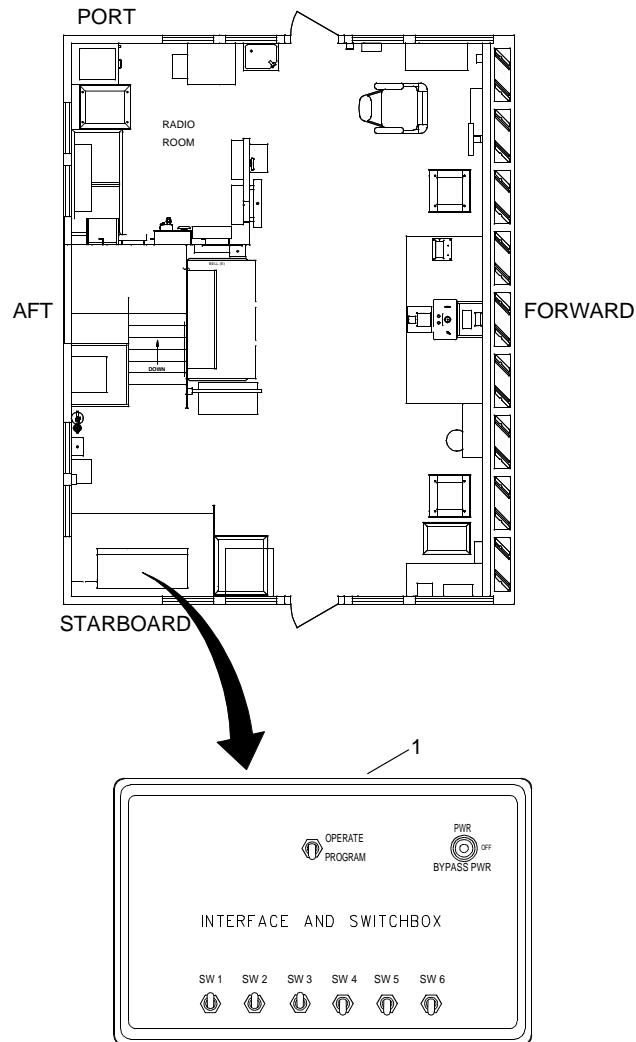

Figure 7. Interface and Switchbox Location
The interface and switchbox (figure 7, item 1), located on the chart table overhead console, is an interface between the communications PLGR, the ships power supply and the GPS antenna. The interface and switchbox is also a switchbox that turns power on or off to the PLGR, allowing the PLGR to be programmed by the CAPSAT data terminal, and allows the operator to turn the position signal on or off to the DSC controller, satellite communications system and the VHF-DSC transceiver. The interface and switchbox also allows input of differential GPS data to the PLGR.